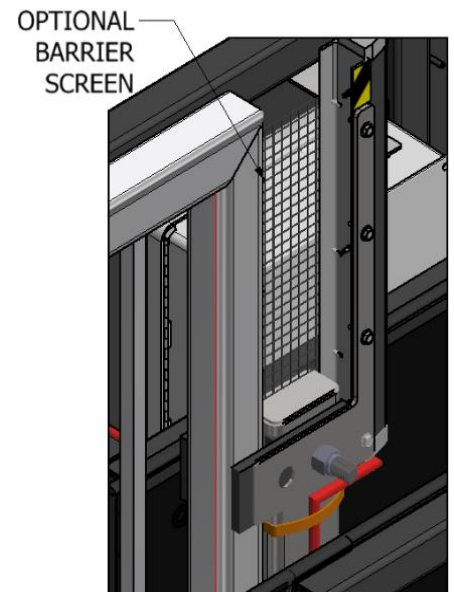

FIGURE 2
- Place the **Arm Open Edge** vertically as shown in **FIGURE 2** with the bracket and nut facing the public/ false panel side of the gate.